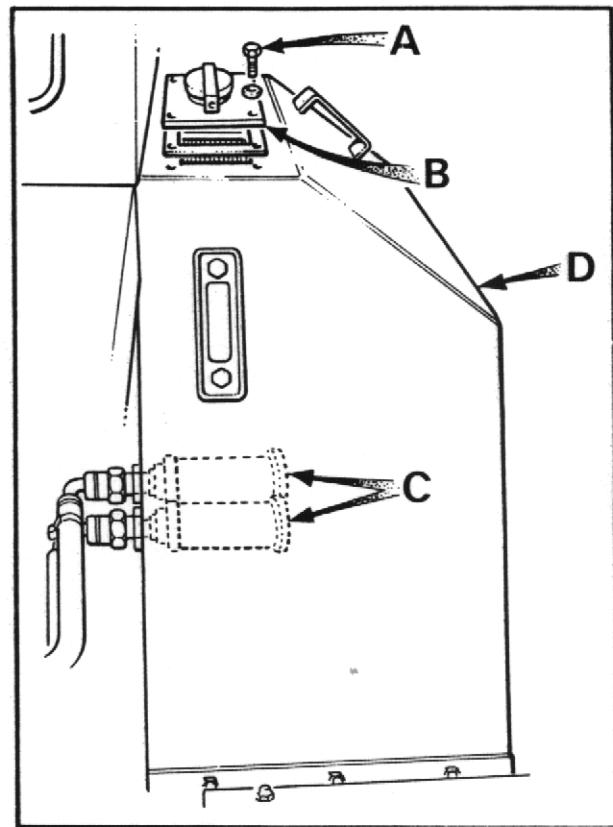

FIG.4
2. Check that neither hydraulic filter is blocked (See Fig. 4)
- a) Remove the four setscrews (A) that secure the filler cap assembly (B) and remove assembly.
- b) Unscrew suction filters (C) from inside tank (D) and wash in white spirit. Dry with moisture-free compressed air.